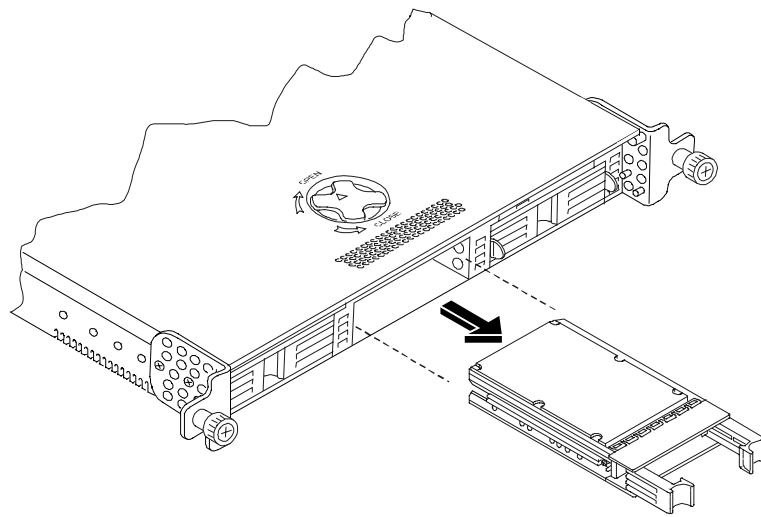

Figure 3-5. Removing a Hot Swap Drive
4. Use your hand to support the bottom of the drive, while you slowly pull the drive straight out. See Figure 3-5.